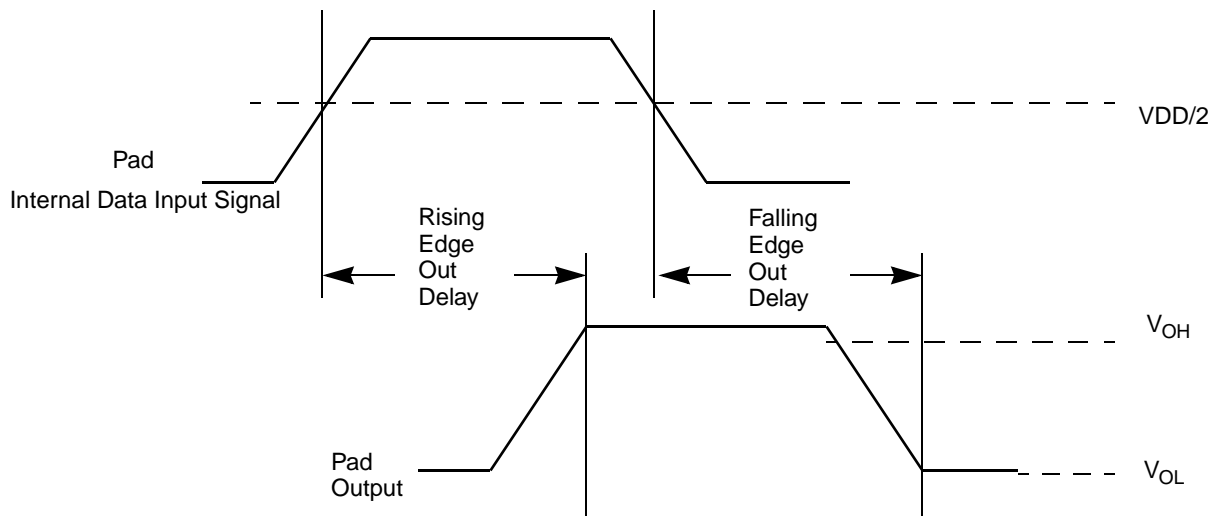

Figure 6. Pad Output Delay
⁸ Output delay is shown in Figure 6. Add a maximum of one system clock to the output delay for delay with respect to system clock.
- ⁸ Output delay is shown in Figure 6. Add a maximum of one system clock to the output delay for delay with respect to system clock.